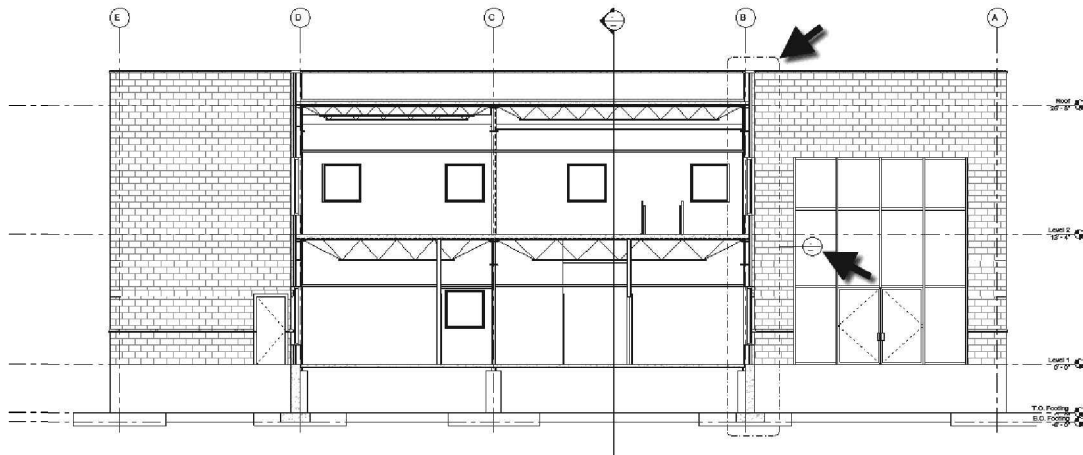

FIGURE 10-4.1 Cross Section 1 view with Callout added
4. Place a **Callout** tag as shown in Figure 10-4.1.